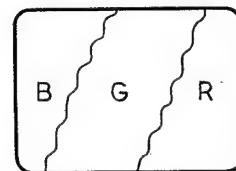

Fig. 3-2.
5. Pull off the pin-plugs of the red and blue leads on the T board or turn the red and blue background controls fully counterclockwise to display a green raster. The screen should appear as shown in Fig. 3-2.